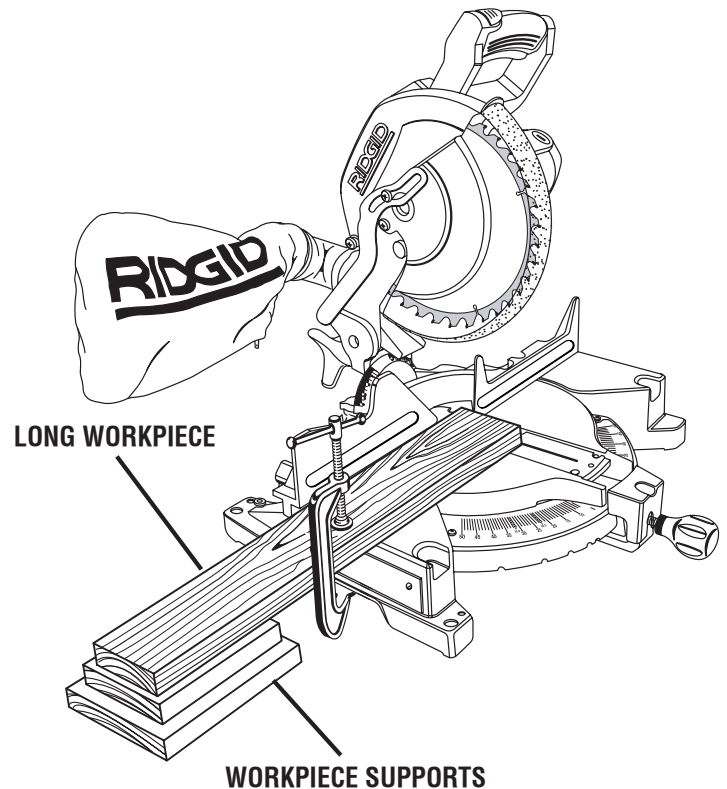

Fig. 29
- When cutting long pieces of lumber or molding, support the opposite end of the stock with a roller stand or with a work surface level with the saw table. See Figure 29.
See Figure 29.